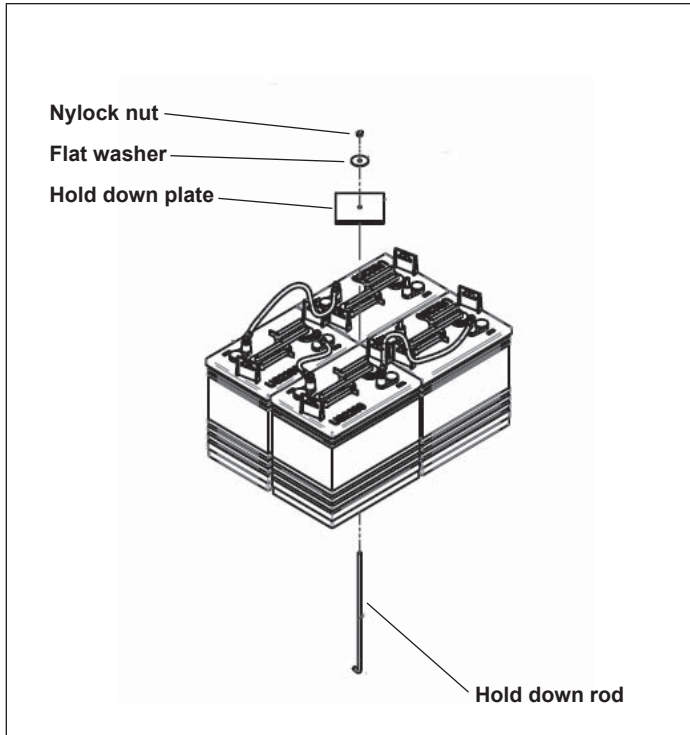

Figure 9-10. Battery and Hold Downs
2. Remove nuts, flat washers, hold down plates and rods. See Figure 9-10.